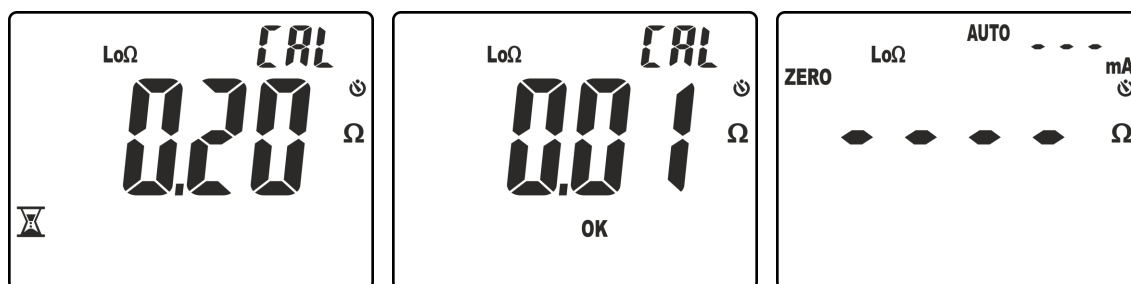

Fig. 33: Results of a correctly performed zeroing
4. The instrument performs the first measurement, detecting the resistance of the test cables (see Fig. 33 – left side). If the compensated value (ZERO) is  $\leq 5.00\Omega$ , the instrument keeps it saved and carries out the following test by performing a second
measurement and comparing this new value to the compensated one. If the difference between the values is  $\leq 0.01\Omega$ , calibration is confirmed and the message "OK" is displayed (see Fig. 33 – middle). Subsequently, the instrument goes back to the measuring screen with the message "ZERO" displayed to indicate that cable compensation is present.